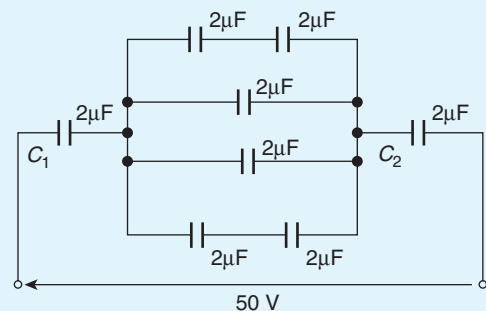

Figure 6.13
12. For the circuit shown in Fig. 6.13, determine (a) the total circuit capacitance, (b) the total energy in the circuit, and (c) the charges in the capacitors shown as C_1 and C_2 [(a) $0.857 \mu\text{F}$, (b) 1.071 mJ (c) $42.85 \mu\text{C}$ on each]